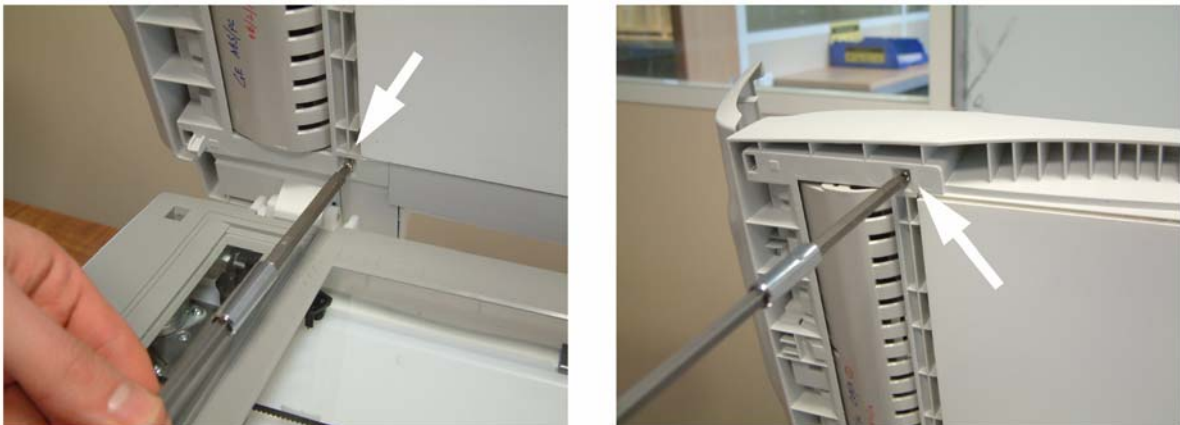

Figure 3
1. Lift the ADF cover and unscrew the two mounting screws of the document feed assembly, Figure 3.